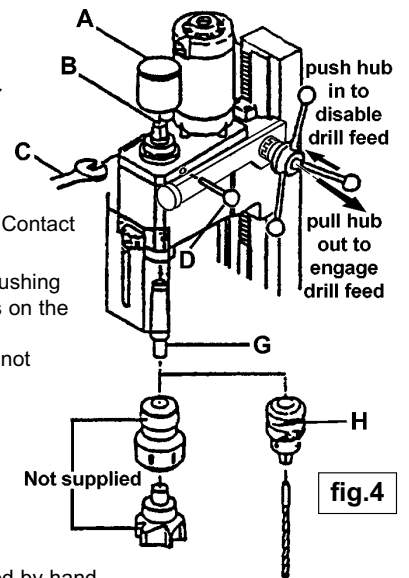

fig.4
4.1 Engaging vertical fine feed. Prior to milling, activate the fine feed wheel (see fig.3-5) by pushing the drill feed hub inwards toward the body of the machine so that the two sets of castellations on the hub shaft engage together and lock the movement of the drill feed. (See fig. 4) This action automatically engages the fine feed wheel. Set the depth stop to its maximum so that it does not interfere with downward movement when setting the height of the milling tool. (See fig.3-19)
4.2.1 Select the cutting tool for the work in hand and the appropriate arbor or collet. **Wear protective gloves at all times especially when handling the cutter.** Introduce the cutter assembly into the spindle sleeve and hold it in place whilst the arbor nut and bolt are tightened by hand. Insert the locking pin provided into the hole in the right hand side of the head adjacent to the spindle (See fig.4-D) to prevent the spindle rotating. Tighten the arbor bolt with a spanner (do not overtighten). Remove the locking pin and replace the plastic cap.
- 5.1 **Engaging rapid drill feed.** The rapid drill feed is controlled with the three rods emerging from the hub on the right hand side of the head. (See fig.3-2) The rapid drill feed will not operate if the vertical fine feed wheel used for milling is still engaged. To make the rapid drill feed operative take hold of the central hub and pull it outwards to disengage the castellations on the hubs central shaft. (See also fig.4)